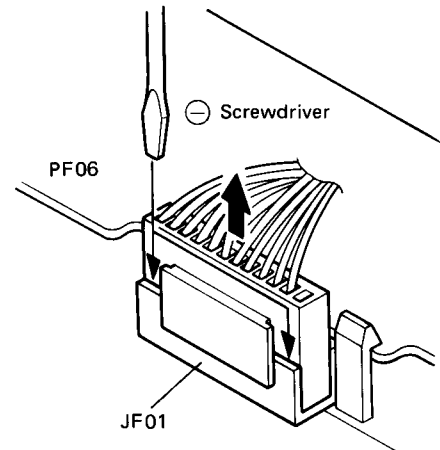

Fig. 2-2
- When disconnecting the connector (JF01) on the front assembly (PF06), draw out this connector undoing the stopper by the straight-edge screwdriver inserted as indicated by arrows in Fig. 2-2.